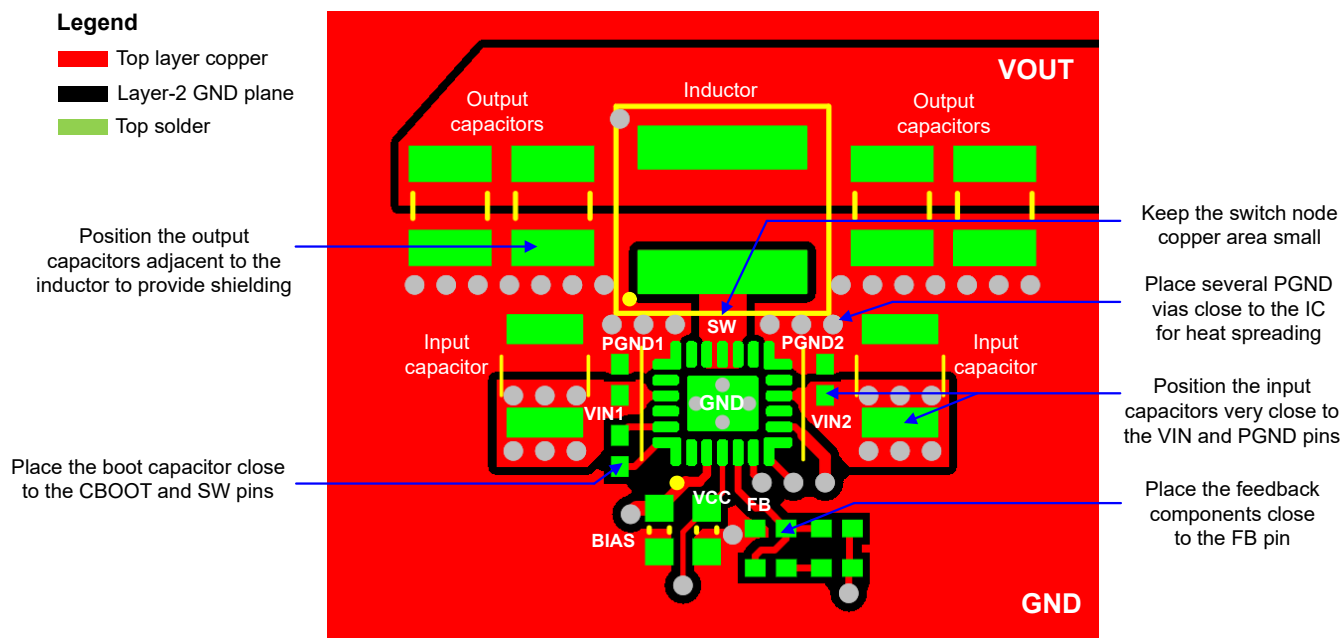

图 9-21. PCB Layout Example
The following list summarizes the essential guidelines for PCB layout and component placement to optimize DC/DC converter performance, including thermals and EMI signature. 图 9-21 shows a recommended layout of the LM64460-Q1 with optimized placement and routing of the power-stage and small-signal components.
- Use low-ESR ceramic capacitors with X7R or X7S dielectric from VIN1 to PGND1 and VIN2 to PGND2. Place an 0402 capacitor close to each pin pair for high-frequency bypass as shown in 图 9-21. Use an adjacent 1206 or 1210 capacitor on each side for bulk capacitance.